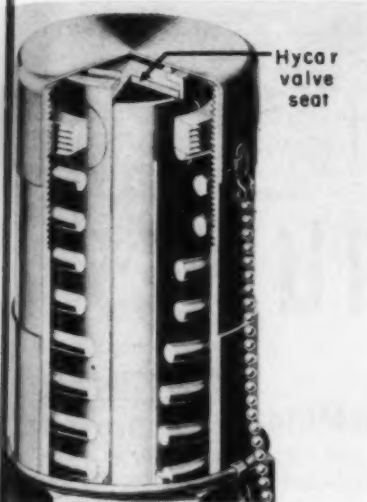

Fig. 20—Left—Propane relief valve with Hycar synthetic seat. Material will not adhere to metal and pressure setting remains constant in service
patibility to minus 65 F may be had with some types. Compounds may be produced ranging from extremely soft to bone hard and the material will not flow even under extreme pressures, Fig. 20.
B. F. Goodrich Chemical Co. (Fig. 20) Cleveland, Ohio